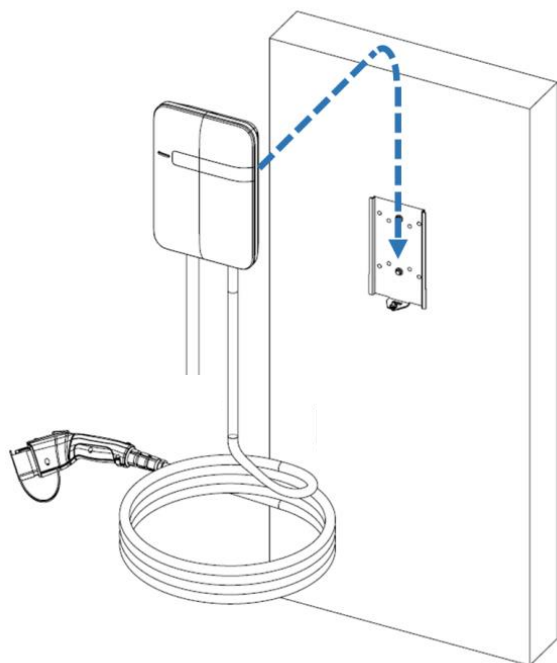

Figure 2-8 Charging station and mounting bracket
2.5.1 As shown in Figures 2-8 & 2-9, mount the charging station onto the mounting bracket and secure the lock screw.